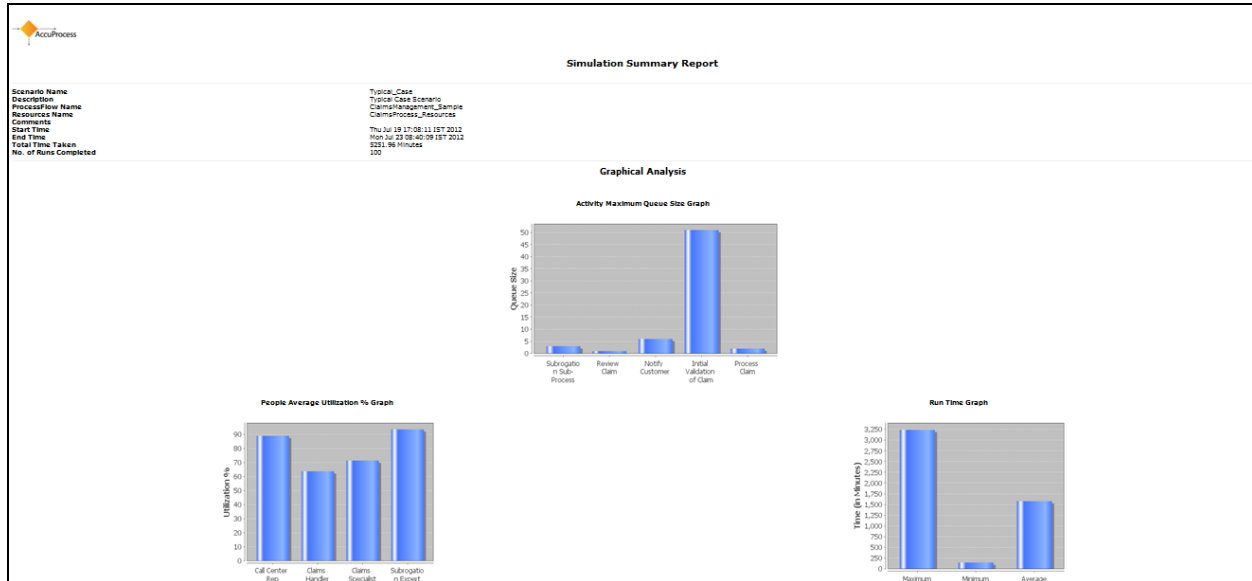

Figure 19: Simulation Summary Report (Graphical Analysis)
- To generate the simulation report, click **Generate Simulation Summary Report** () button from the tool bar. The report is generated in the HTML form and shown in your browser. Figure 19 shows the *Simulation Summary* and *Graphical Analysis* report.